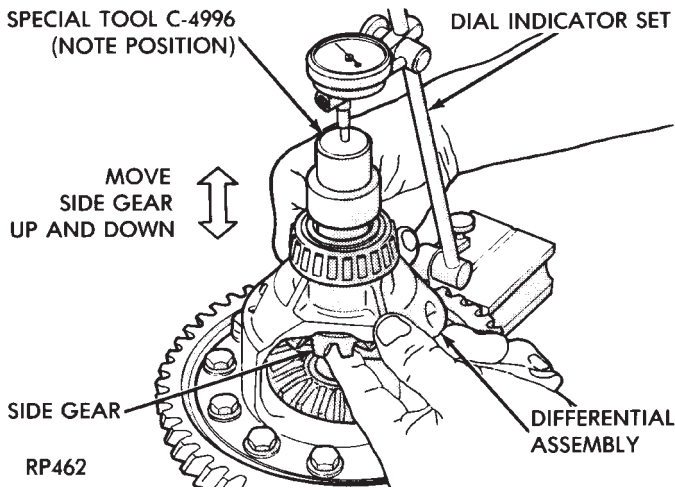
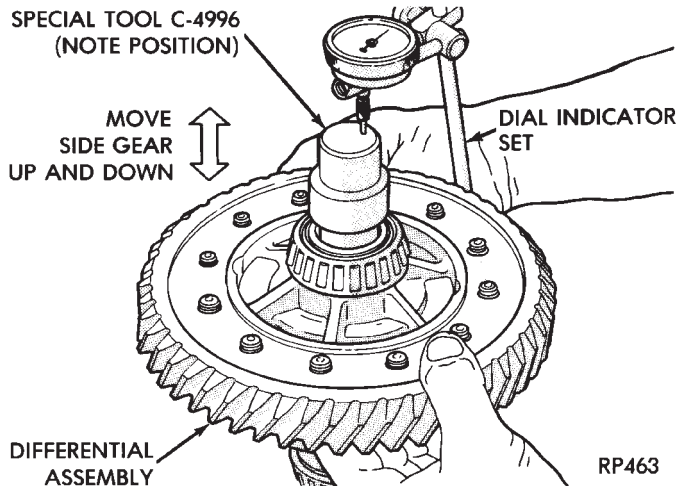

Fig. 124 Checking Side Gear End Play (Typical)
Fig. 125 Checking Side Gear End Play (Typical)
(5) Set up dial indicator as shown and record end play (Fig. 124) (Fig. 125). Rotate side gear 90 degrees and record another end play. Again, rotate side gear 90 degrees and record a final end play.